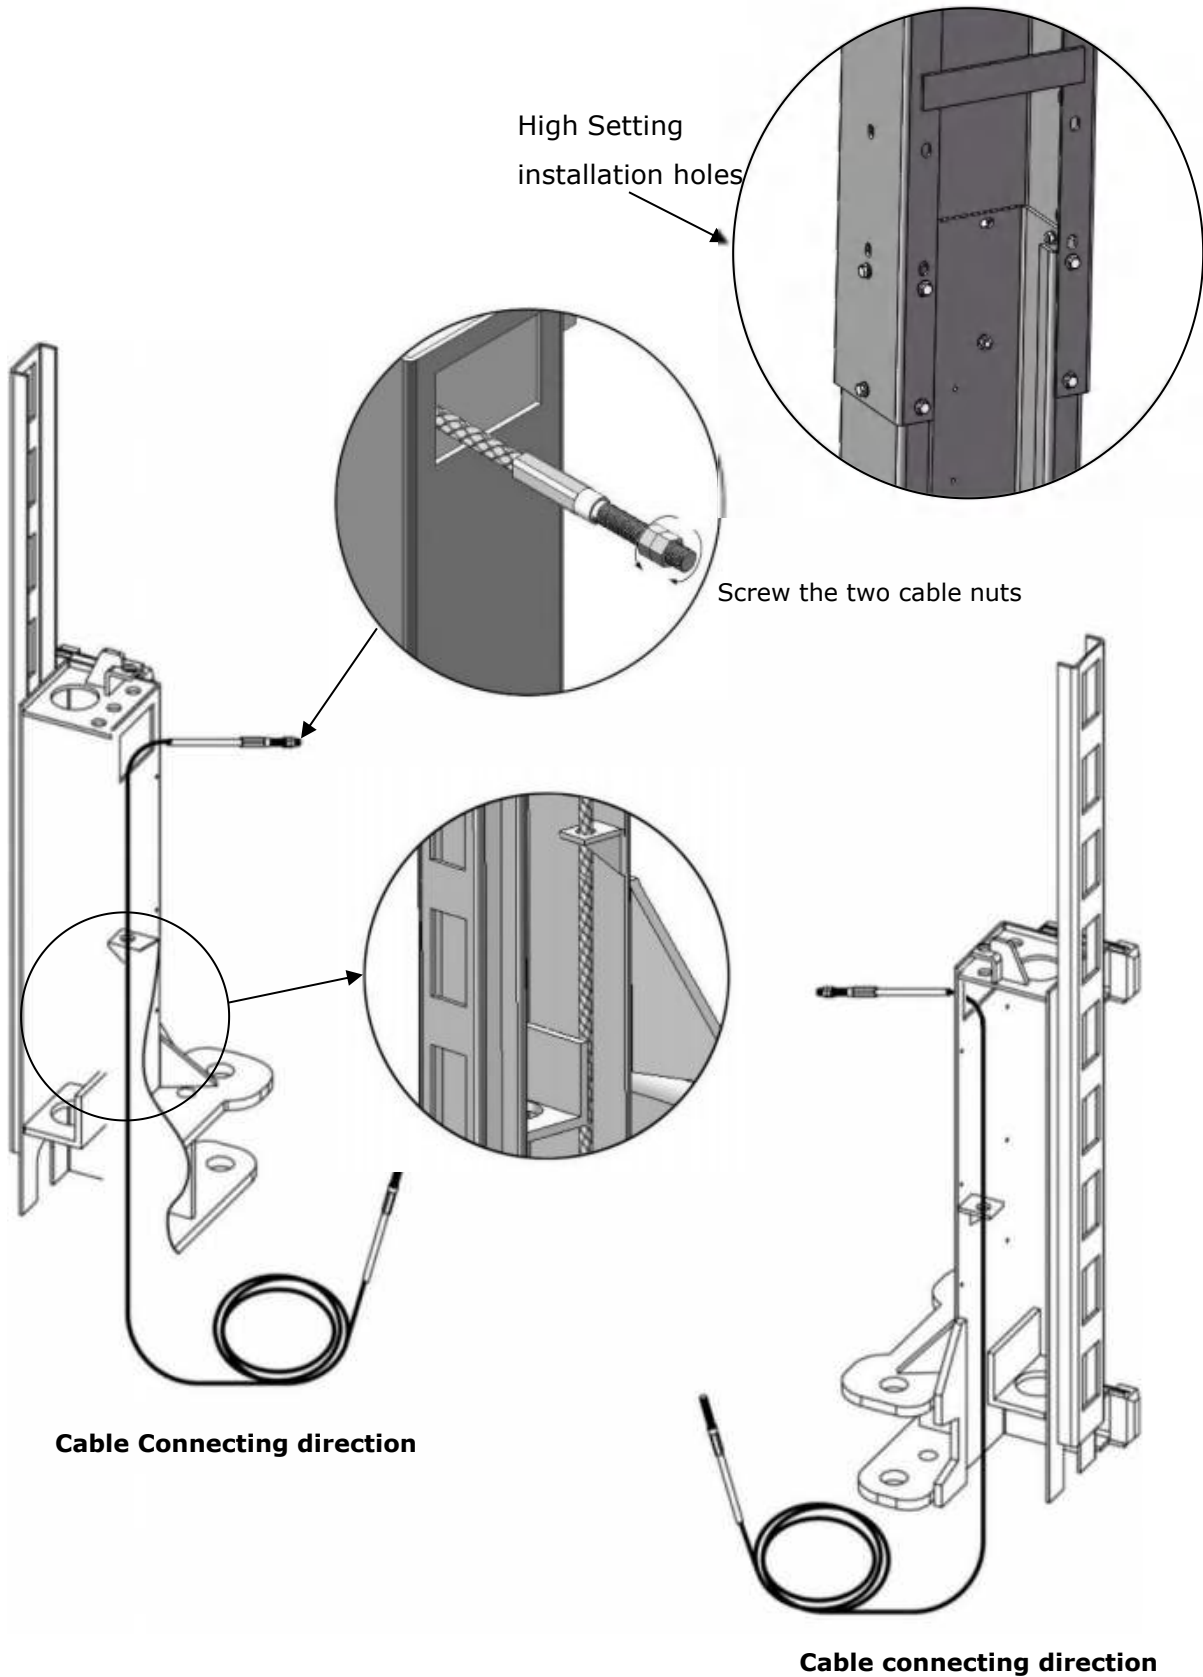

Fig. 27
2.1. Cable across from the bottom of the carriage and pull it out from the hole of carriage, then tighten two cable nuts. (See Fig. 27).